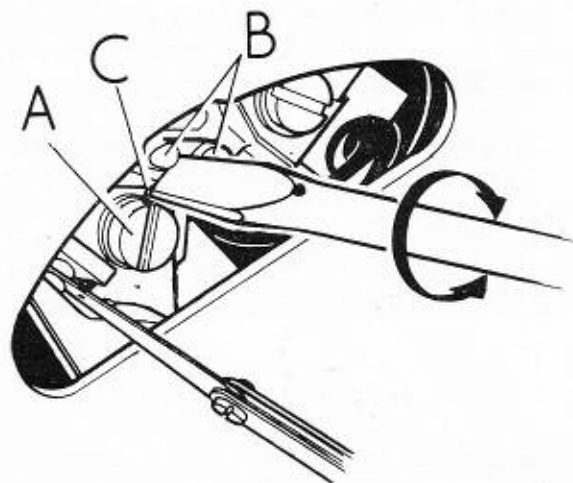
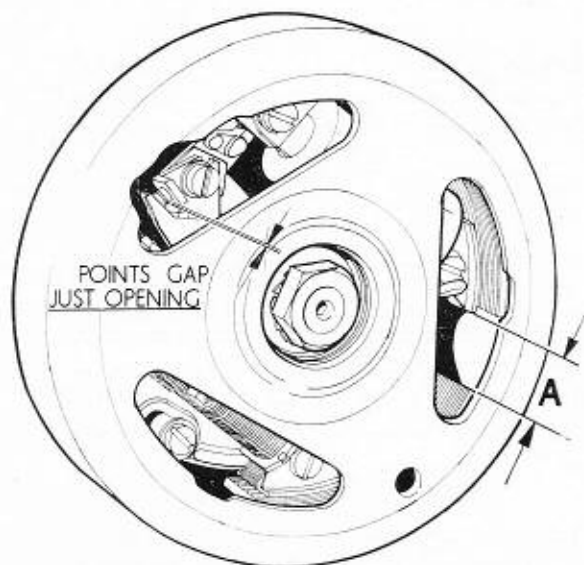

FIG. B19. Setting points gap.
FIG. B20. Rupture gap.
To set the contact breaker gap, the flywheel should be placed in the position shown in Fig. B20, this will open the points to their fullest extent. Now proceed as follows: slacken fixing screw (A) Fig. B19, half a turn and insert a screwdriver blade between notches (B) on the base plate and opening (C) in the fixed contact. Twisting the screwdriver will alter the gap.
Mount a dial test indicator gauge, on a magnetic stand, on the cylinder barrel face, bring the piston to top dead centre and set the clock at zero. Turn the engine backward about 100° (2.5 mm) and slip a piece of cigarette paper between the contact breaker points. Now turn the engine forward and between 0.78° — 0.85° (2—2.2 mm.) the paper should be released. If release is not obtained between the figures specified, slacken the three screws securing the stator plate and turn it a few degrees, either way, until the required setting is reached. At this point, the rupture gap should be 0.275° — 0.433° (7—11 mm.) as dimension (A) in Fig. B20.